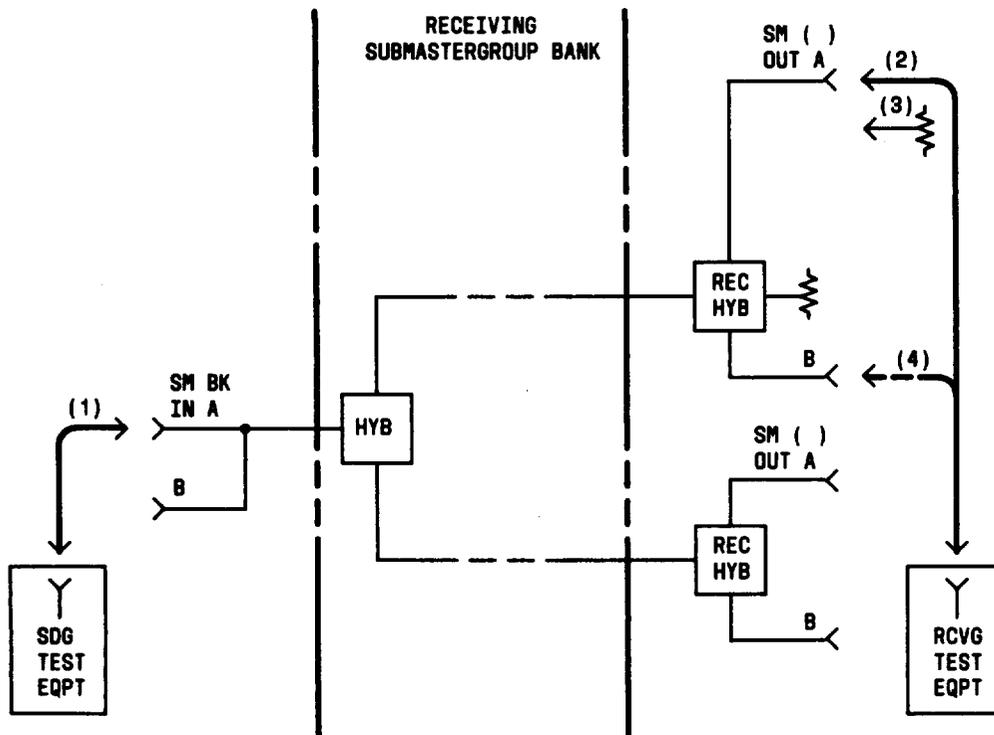

Fig. 3—Receiving Submastergroup Bank Testing Arrangement
5	Connect the STE to the SM BK IN A jack [patch (1), Fig. 3].
6	Connect the RTE to the SM() OUT A jack [patch (2), Fig. 3]. Note: Parentheses indicates 1 or 2, according to the submastergroup under test.
7	♦Insert a 75-ohm 368A plug into the SM() OUT B jack for the submastergroup under test [patch (3), Fig. 3].♦
22	Disconnect the RTE from the SM() OUT A jack [patch (2), Fig. 3].
25	Connect the RTE to the SM() OUT B jack [patch (4), Fig. 3].
27	Disconnect the RTE from the SM() OUT B jack [patch (4), Fig. 3].